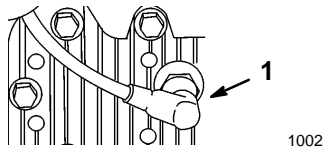

Figure 17
1. Stop the engine and pull the wire off of the spark plug (Fig. 17).
2. Pull the wire off of the spark plug (Fig. 17).
3. Pull the wire off of the spark plug (Fig. 17).
1. Stop the engine and pull the wire off the spark plug (Fig. 17).
5. Connect the spark plug wire (Fig. 17).
- C. If there are no signs of wear or dullness, return the mower to the upright position and replace the spark plug wire (Fig. 17).